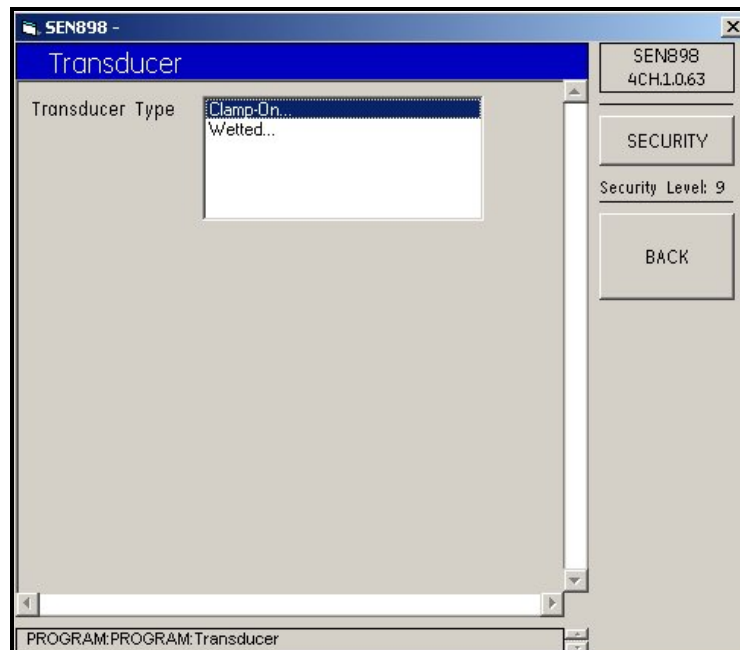

Figure 49: Transducer Types
**Note:** If *Wetted* was selected under *Transducer Type* (see Figure 49 on page 73), the following screen appears.